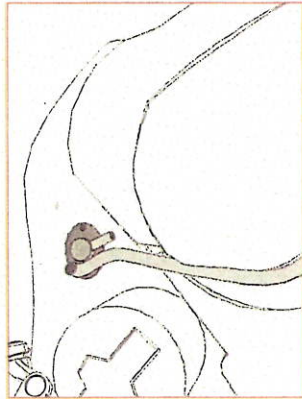

Figure 3
2. Disconnect tank vent hose at the frame. (Figure 3,4)